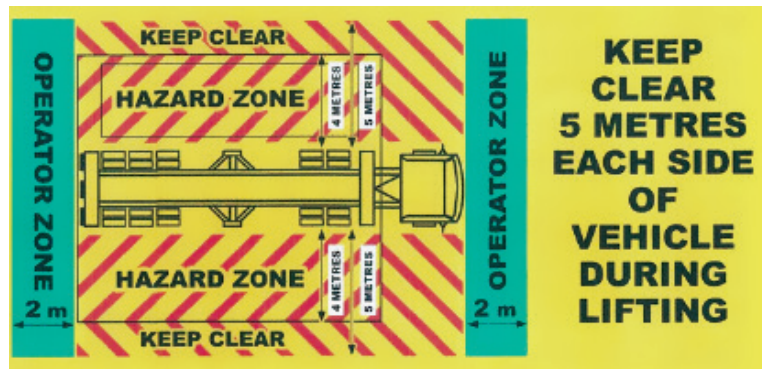

Figure 3: Sideloader operational exclusion zone.
- the assistant has made eye contact, signalled completion of their task(s) and retreated to the operator zone before the operator starts using the sideloader (see Figure 3)
Make sure no-one is within 5 metres of either side of the vehicle during lifting. The operator and any assistant should remain at either the front or back of the vehicle while lifting is taking place (the operator zone) See Figure 3.